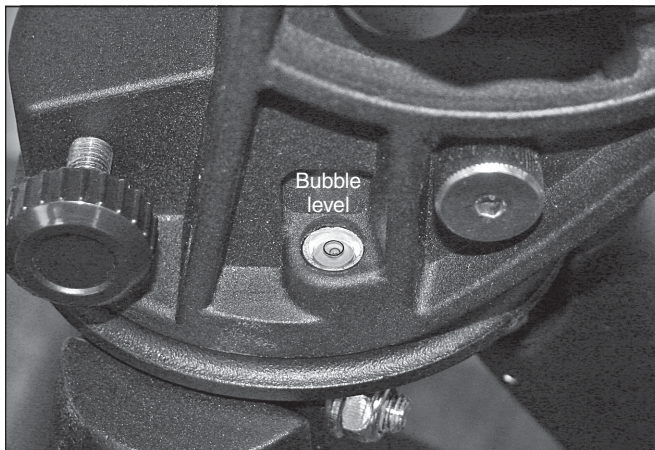

Figure 5. The bubble level at the base of the mount head makes leveling the mount easy.
2. Using the bubble level on the mount (**Figure 5**), level the mount by adjusting the length of the tripod legs as needed.